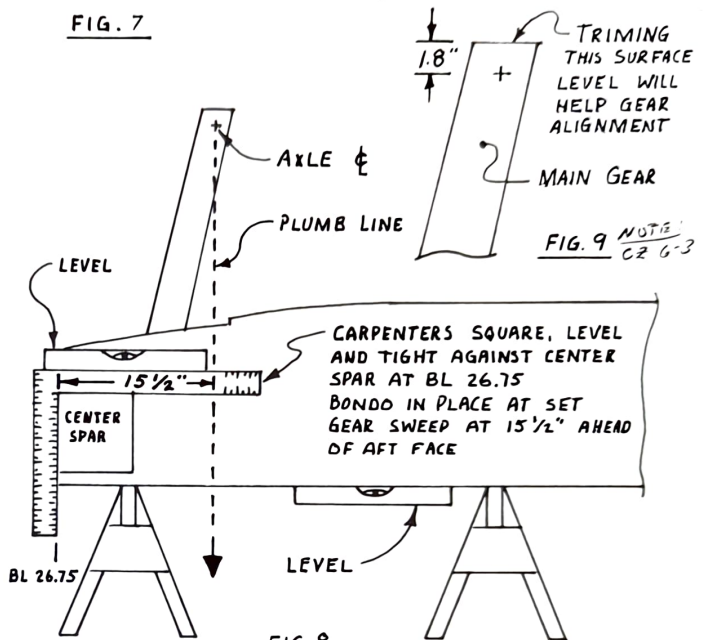

FIG. 8
- 2) Turn the fuselage upside down on a pair of saw horses. Level the fuselage fore and aft, and side to side using the top longerons as a reference (Fig.8).
- 7) Drop plumb lines for each axle centerline (Fig.8 & 10). Bondo carpenter squares to the centerspar, next to the plumb lines on each side, equidistant from the fuselage centerline. The carpenter squares must be against the aft face of the centerspar and level.
- 8) Adjust the foam wedges until the gear is centered, the correct height above the steel tubes, the jig blocks are centered on the steel tubes with about 0.65 in. of tube showing each side of the jig blocks, the legs are equal in length, and sweep (read on the carpenter square) 15-1/2 in. on both sides (Fig.8).